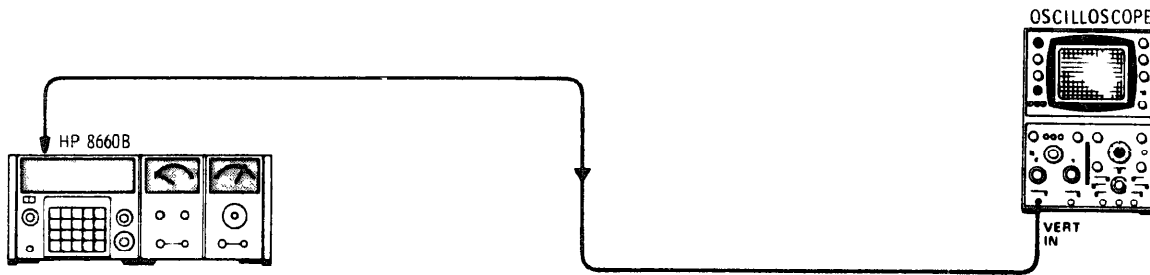

Figure 5-6. Oscilloscope Level Checks Test Setup
- a. Check the outputs listed in Table 5-3 for the levels shown (see Figure 5-6).